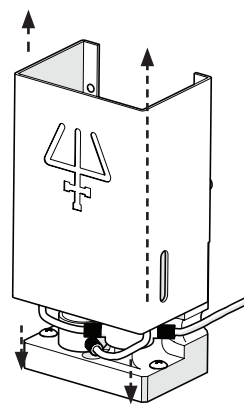

Figure 11: Opening the Cover on the 4-Probe Rinse Station with Transfer Ports
2. Raise the cover on the rinse station (refer to Figure 11) and align the holes in the rinse station with the locator pins affixed to the tray insert.